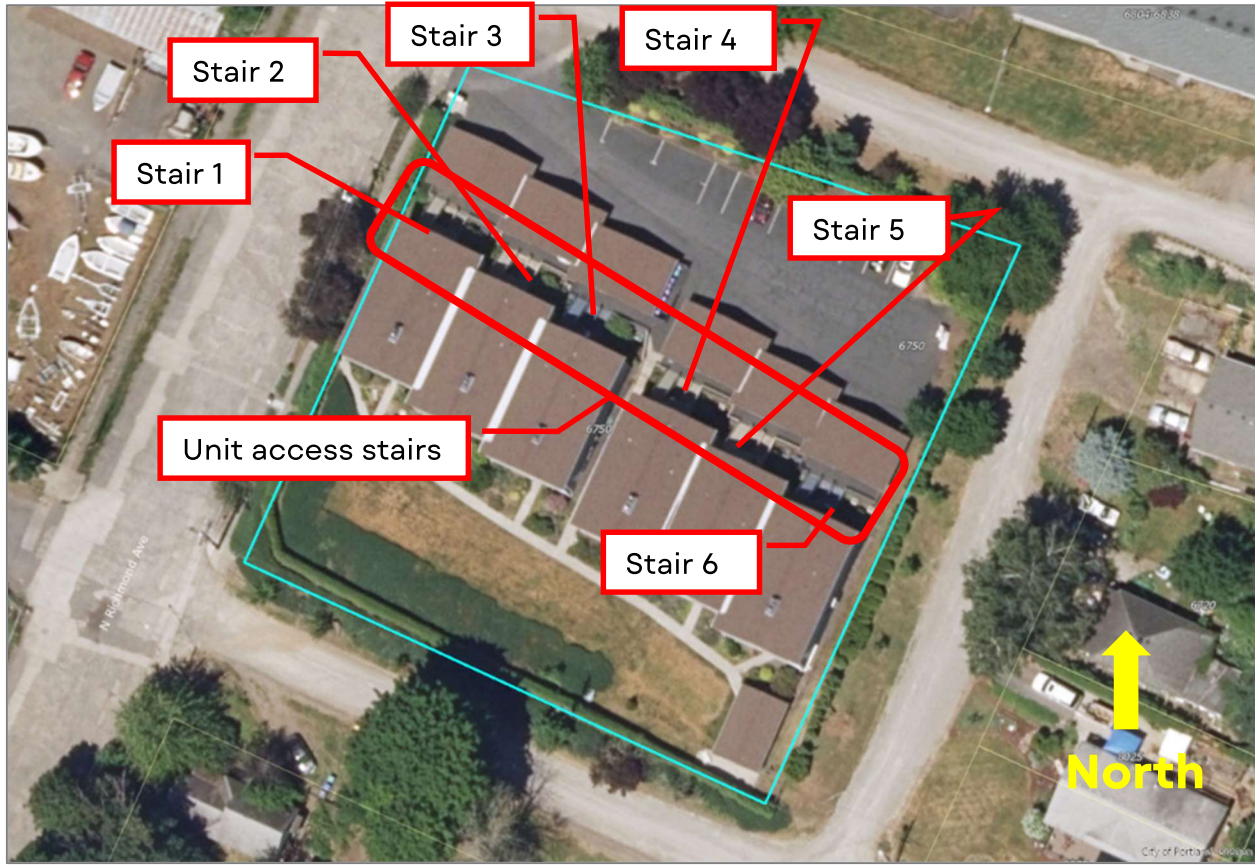

Figure 2: Bridgeview Condominiums - Aerial View
The scope of the inspection was a visual review of all six (6) sets of elevated wood unit access stairs within the complex. For the purposes of this report, the stairs have been numbered from northwest to southeast as indicated in Figure 2 above.